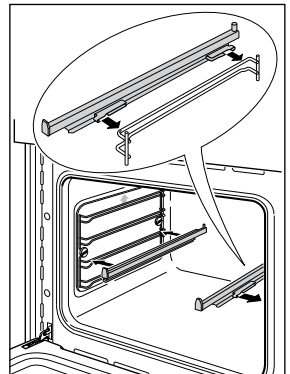

Fig.34 Refitting the sliding shelf supports
- 2 Fit the sliding shelf support onto the top wire of a rack and press (Fig. 34). You will hear a click as the safety locks clip over the wire.
- the slides so that they run out towards the oven door, as shown in Fig. 34).